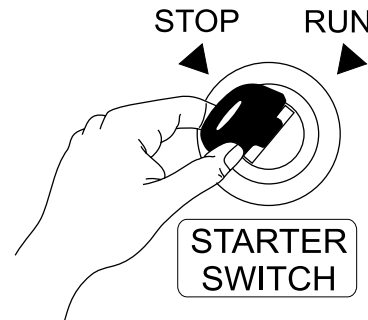

Figure 23. Ignition Key (RUN Position)
5. Insert the ignition key (Figure 23) into the “Starter Switch” and turn the key clockwise to the **RUN** position.